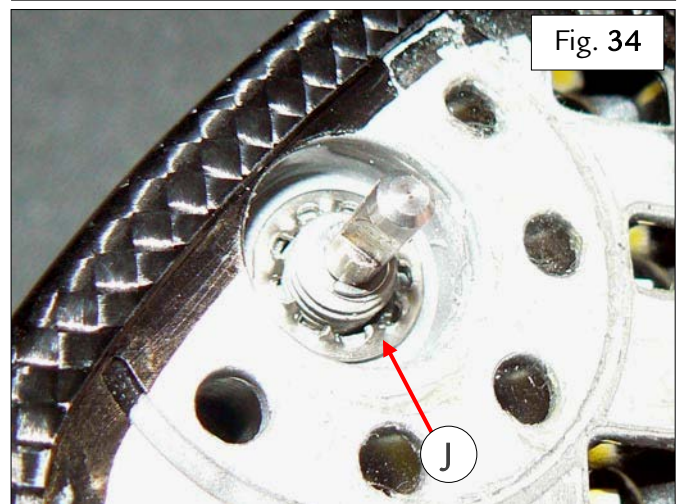

Fig. 34
- Fit the new washer (J) - Fig. 34.